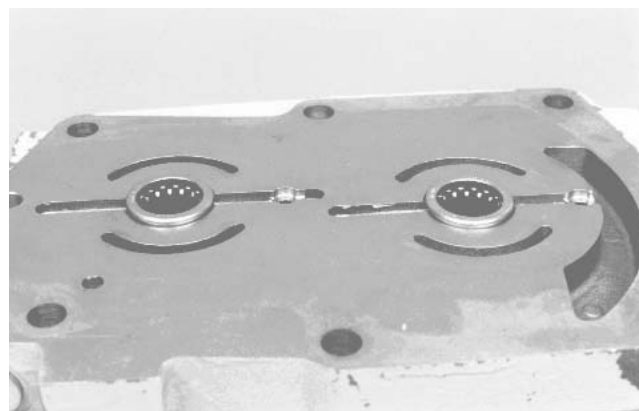

Figure 54
5. Press new needle bearings into center section using a suitable press pin. When installed correctly, bearing cage will protrude from 0.09 to 0.11 inch (2.3 to 2.8 mm) from the surface of the center section to serve as pilots for the valve plates (Fig. 54).